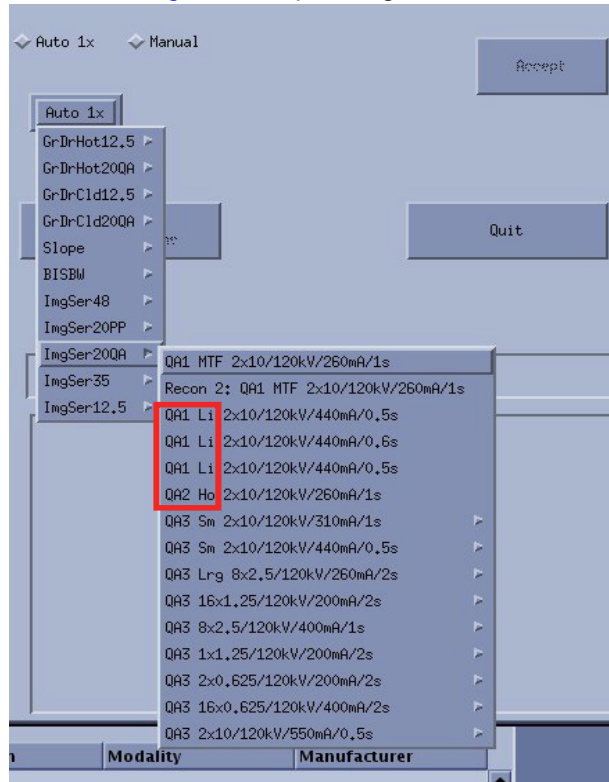

Figure 6-12 Auto 1x with QA2 Protocol
- If Scan Protocol shown as Figure 6-12, please go to Section 7.5.3